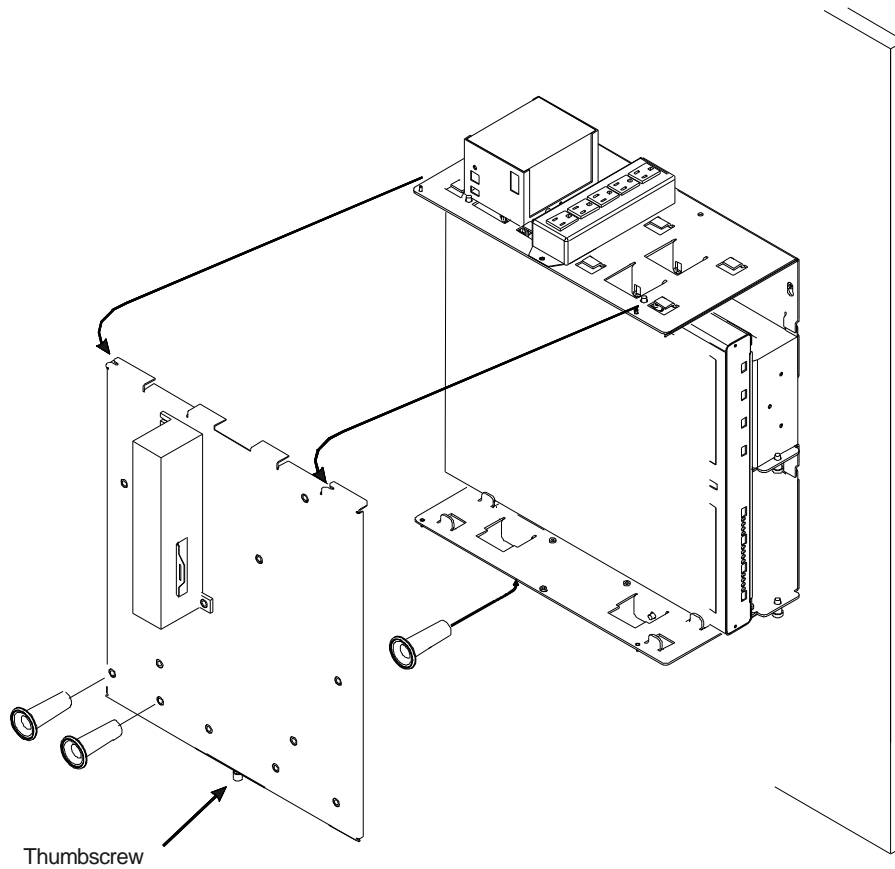

Figure 7
See Figure 7
4. Mount the three wiring distribution spools on the Speedway, similar to the arrangement shown in Figure 7, if they are not already mounted.